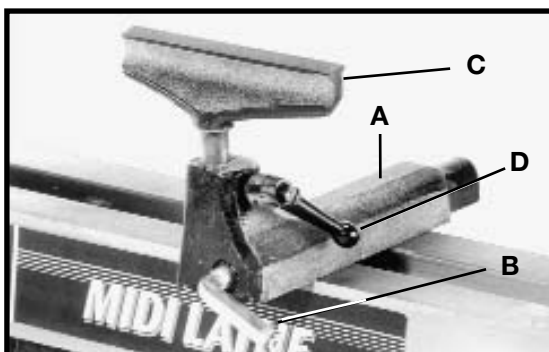

Fig. 22
- To position the tool rest base (A) Fig. 22 along the lathe bed, loosen locking lever (B), slide the tool rest base to the desired position, and tighten lever (B).
- To adjust the height of the tool rest (C) Fig. 22, loosen lever (D), raise or lower tool rest and tighten lever (D).